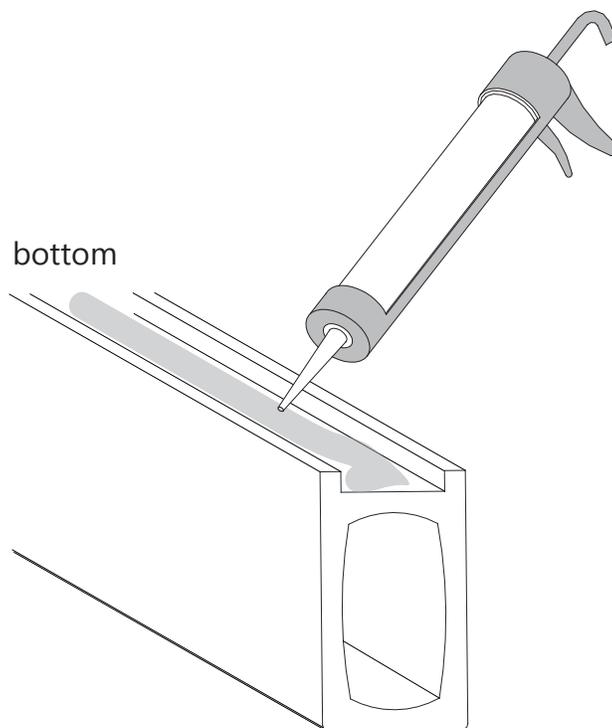

Fig 4
4. Apply silicone into the groove along the bottom surface of the **Anti-Splash Threshold (#21)**. **(Fig 4)**